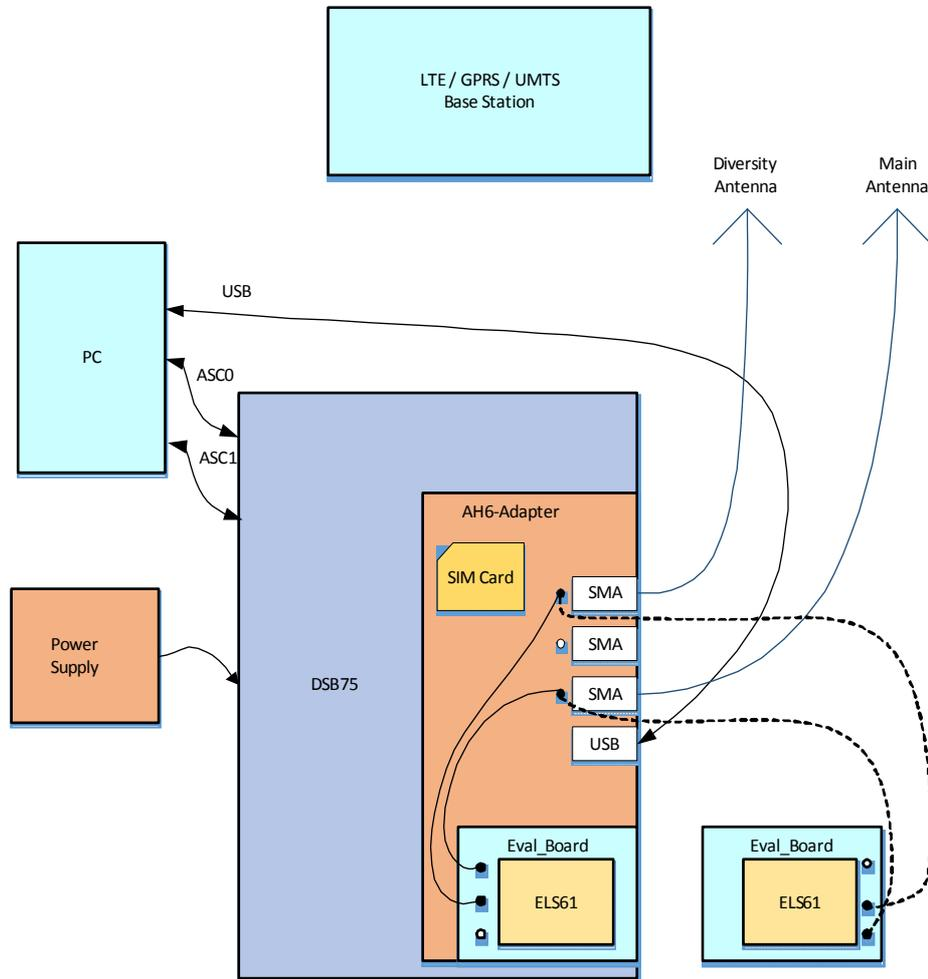

Figure 55: Reference equipment for Type Approval
1. For RF performance tests a mini-SMT/U.FL to SMA adapter with attached 6dB coaxial attenuator is chosen to connect the evaluation module directly to the UMTS test equipment instead of employing the SMA antenna connectors on the ELS81-US-DSB75 adapter as shown in Figure 55. The following products are recommended: